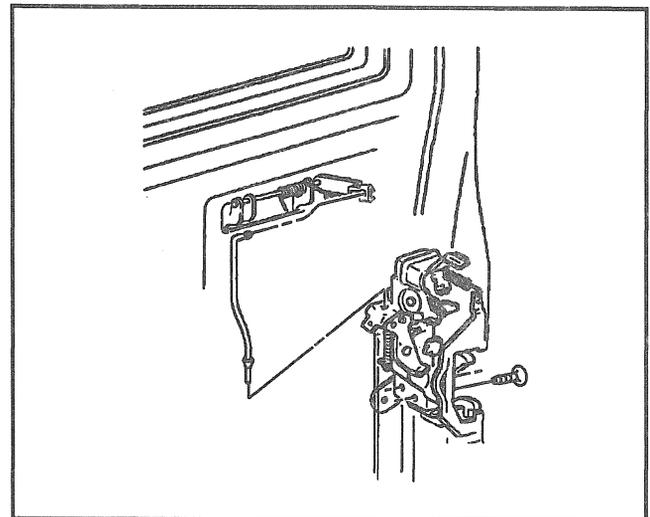

Figure 72—Outside Rear Side Door Handle and Lock Control Rods and Lock Assembly
5. Outside door handle and lock control rods (Figure 72).
2. Outside door handle and lock control rods (Figure 72).